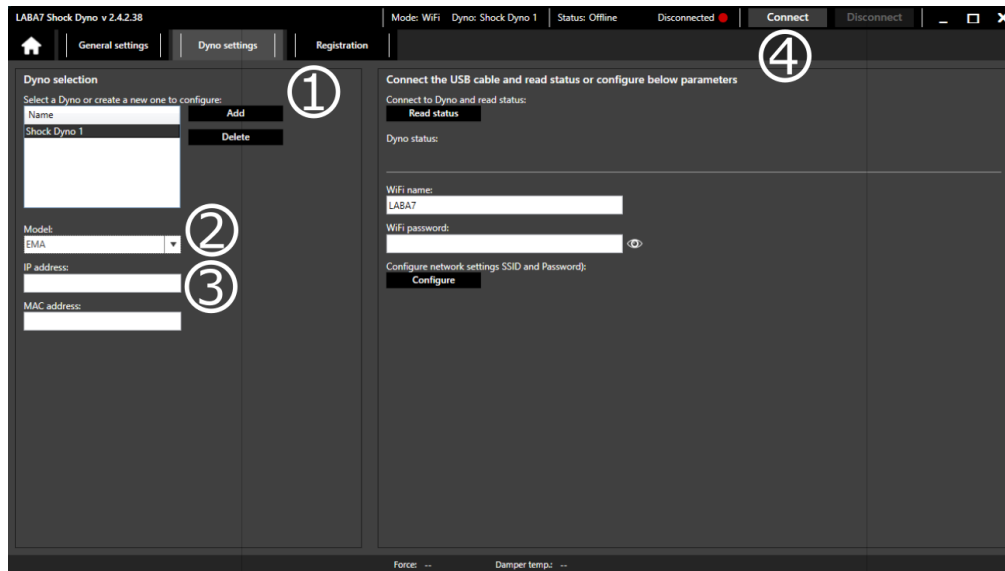

Figure 16
4. Add a new Dyno model by clicking Add button (Figure 16 – Step 1).
7. Select Model: EMA (Figure 16 – Step 2).
8. Enter the IP address of the device. The IP address is shown on the screen of the power supply (Figure 16 – Step 3).
9. Press **Connect** (Figure 16 – Step 4). **Connected** status indicates, that the connection is successful.